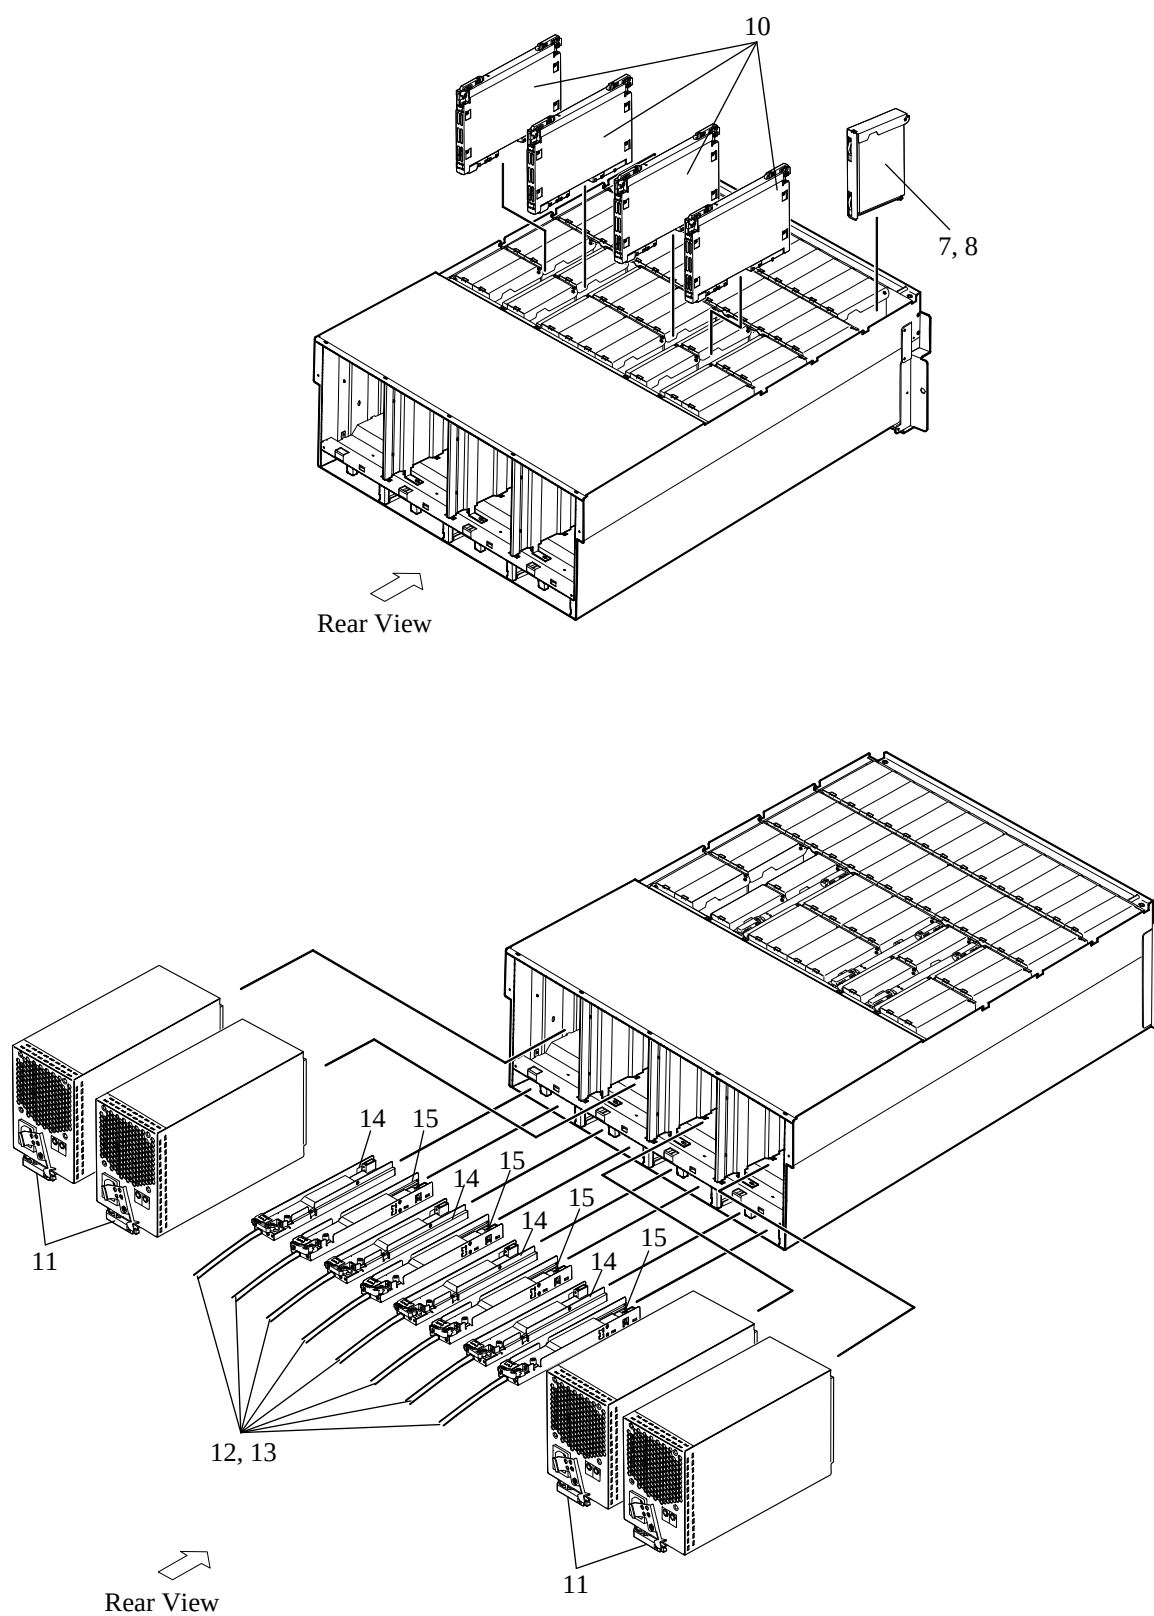

Fig. 2-4 DBX (2/2)
(4) DBX**Fig. 2-4 DBX (1/2)**
PARTS02-90**PARTS LIST 2-4 (Parts listed below is shown in Fig. 2-4.)**